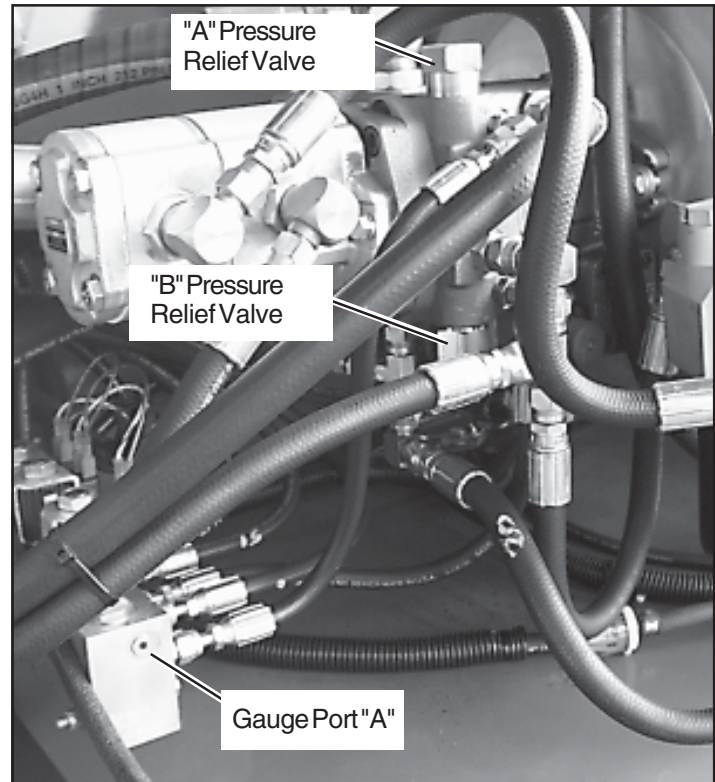

Figure 3-13: Hydraulic Pump
3.9 Drive Pump Settings (Figure 3-13)